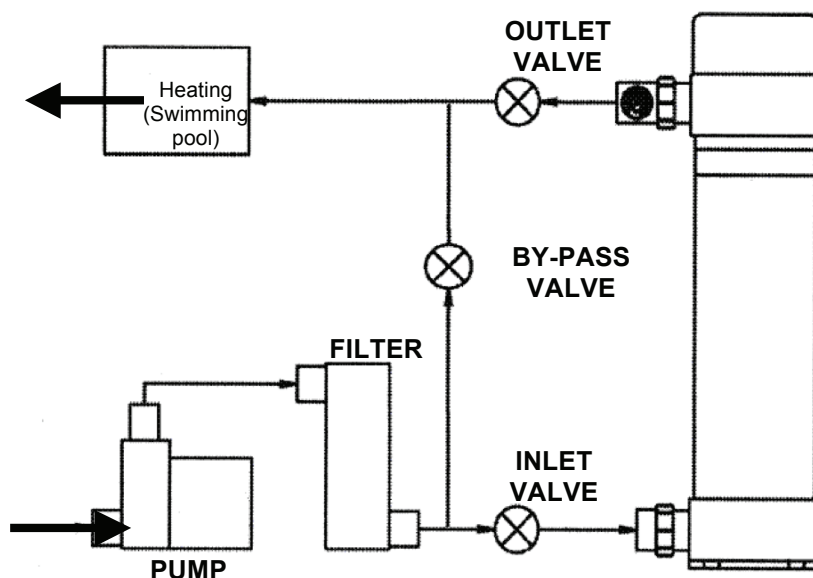

FIG. 1
**Plumbing The UV Unit** - Your DELTA UV unit will need to be plumbed into your pond or swimming pool circulation system. The diagram (Fig. 1) shows how the unit is to be plumbed. Note that the water is to be piped from the pressure side of the pump and after the filter, in and out of the DELTA UV unit. The inlet for the water is at the bottom of the DELTA UV unit, and the outlet is at the top of the DELTA UV unit. If your pump exceeds the maximum flow rate of